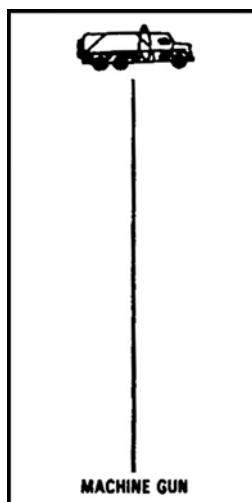

Figure 6. Point target engagement.
- 6. Engage a point target using six- to nine-round bursts (Figure 6).